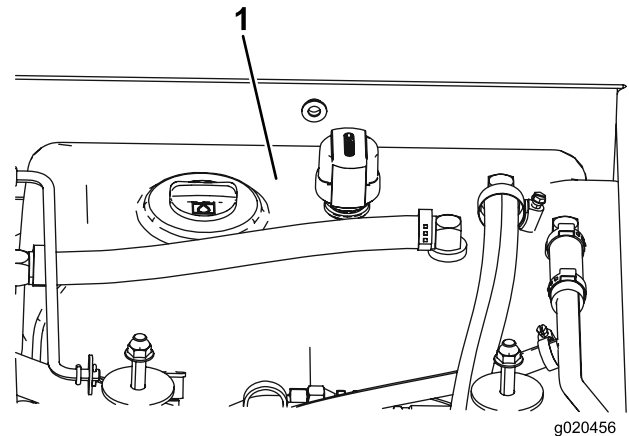

Figure 72
4. Fill the reservoir (Figure 72) with hydraulic fluid; refer to Checking the Hydraulic Fluid (page 52).